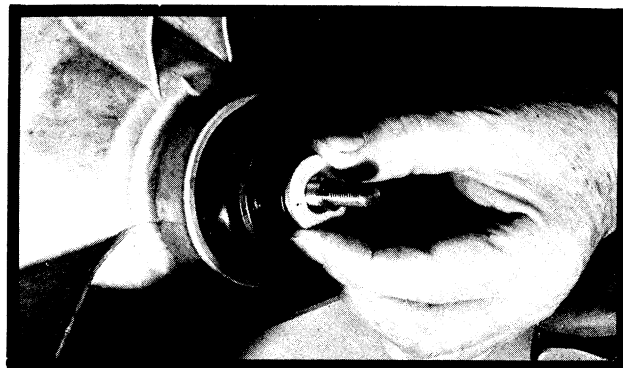

Figure 73
- Place the 1 1/8 x 5/8 x 1/16 inch washer over the pinion shaft, *Figure 73*.